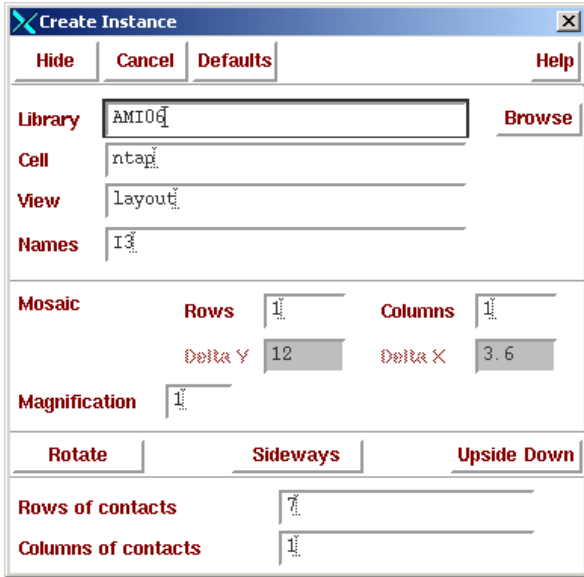

Figure 68: ntap with 7 Rows of Contacts.
5. Fill out the pop-up like Figure 68 making sure to select 7 rows of contact. This is done to make sure the NWEEL is well contacted. Since it is impossible to route metal1 over this cell it does not matter if we use extra ntps.